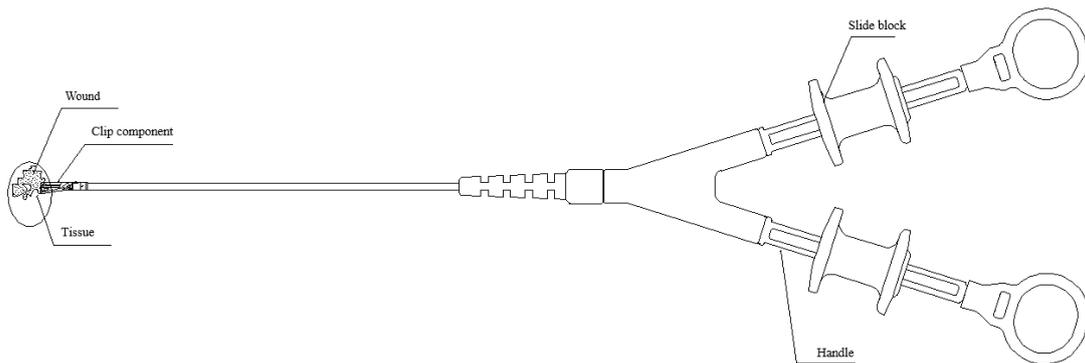

Fig 5 Traction tissue
5. Move the wound tissue to the other side of the wound through the endoscope. At this time, the handle that controls the clip's closure remains closed. (as shown in Fig 5)